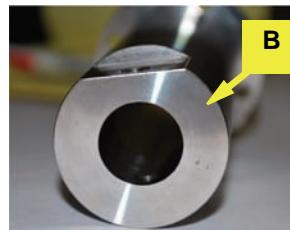

Figure 2a: Shaft adapter
- Apply anti-seize (not supplied) to the inner surface of the shaft adapter (coupler) **B** to facilitate later removal (Figure 2a).